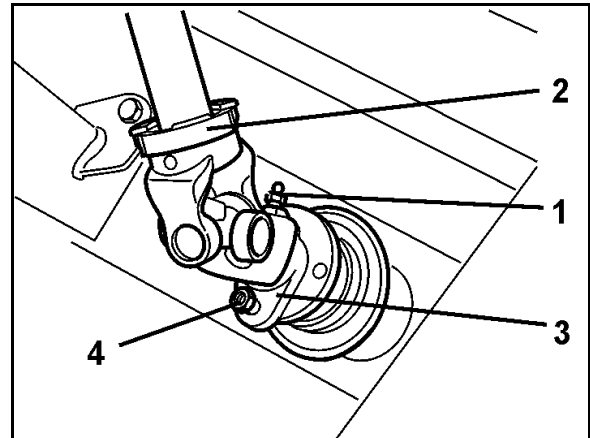

Fig. 87
2. Relieve the springs (Fig. 87/1) by unscrewing the nuts (Fig. 87/2).